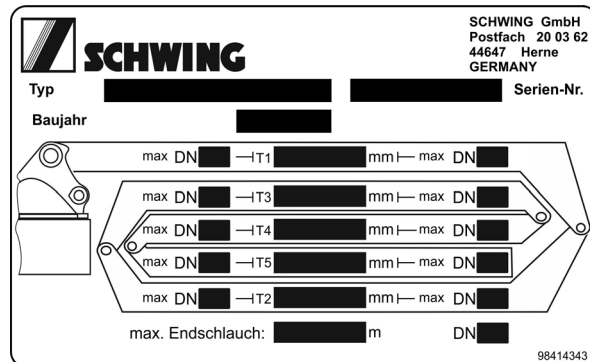

Fig. 65 Example: Type plate on 5-part boom
A distinctive type plate is located on the placing boom for the placing boom pumping line (**Fig. 65**). The nominal sizes (DN) specified on this type plate are the maximum allowable.
Caption of (Fig. 65)